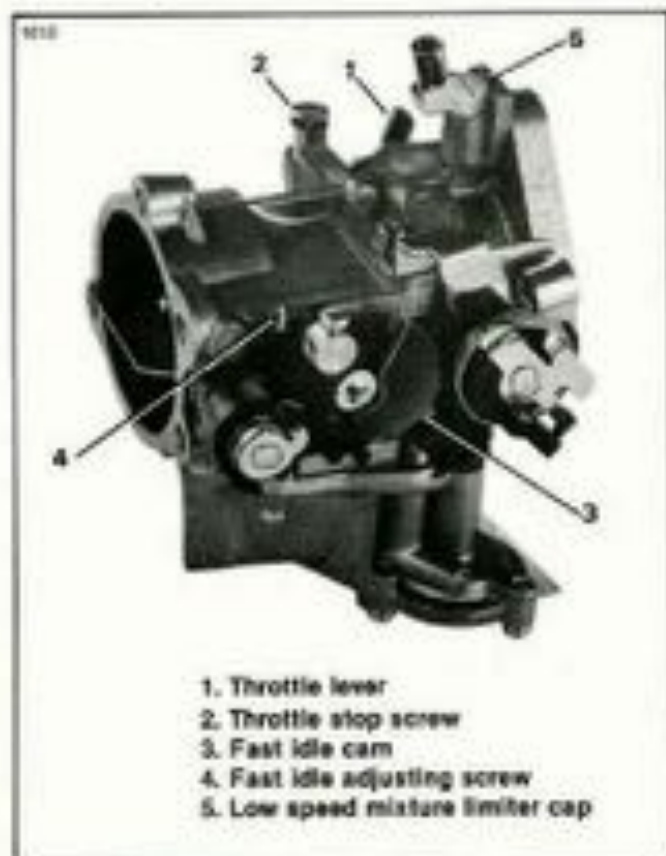

Figure 4-1. Carburetor — 1978½ - 1979
Remove the air cleaner. With the engine at normal operating temperature and the choke knob all the way in (choke fully open), adjust the throttle stop screw (Figure 4-1, 4-2, 4-3 or 4-4) so the engine idles at 900-950 rpm.
screw at the fast idle cam (3), figure 4-1, 4-2, 4-3 or 4-4. Slowly rotate the cam, from the choke plate fully open position, to the first noticeable click or detent. Turn the fast idle adjusting screw (Figure 4-1, 4-2, 4-3, 4-4) in or out to set the fast idle at 1500 rpm.